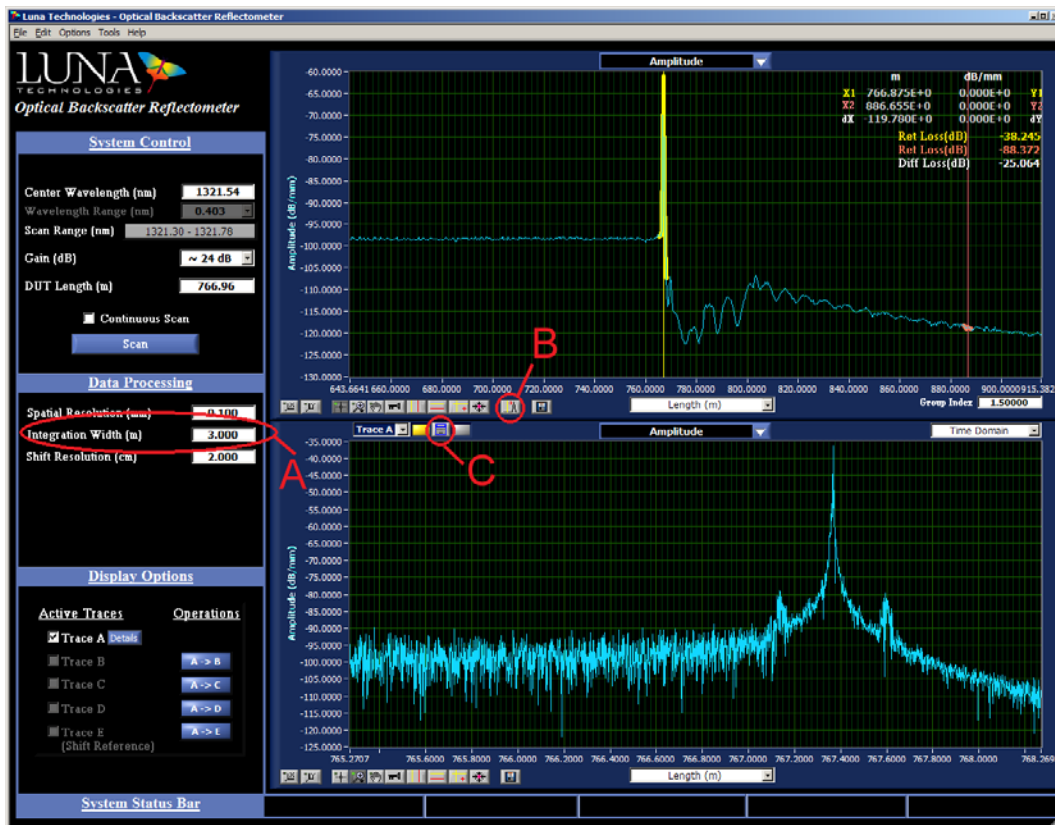

Figure 9: OBR analysis software showing integration width entry field (A), find peak feature (B), and calculate lower graph (C)
- iii. In the “Integration Window” field (labeled ‘A’, Figure 9), enter a length such that the highlighted region encompasses the peak.
- iv. Click on the “Find Peak” button (labeled ‘B’, in Figure 9). This will center the integration window on the peak of interest. An approximate value of the peak location may be obtained from the color-coded menu on the right, top corner of the upper graph.
- v. A more accurate measurement may be obtained by moving the highlighted data to the lower graph, where the data subset will be displayed at maximum resolution. To do this, click on the “Calculate” button (labeled ‘C’, Figure 9).